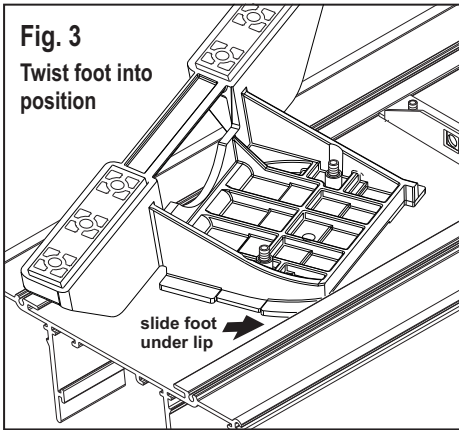

Fig. 4 Loosely secure foot and anchor plate.
6. Turn the lightbar upside down and firmly tighten all of the mounting foot allen head set screws to 14-16 In.Lbs. (Fig.4). With the lightbar upside down, drill 2 holes into the mounting foot (for the mounting bolts) using the holes in the mounting pads as guides, in the location shown in figure 1.